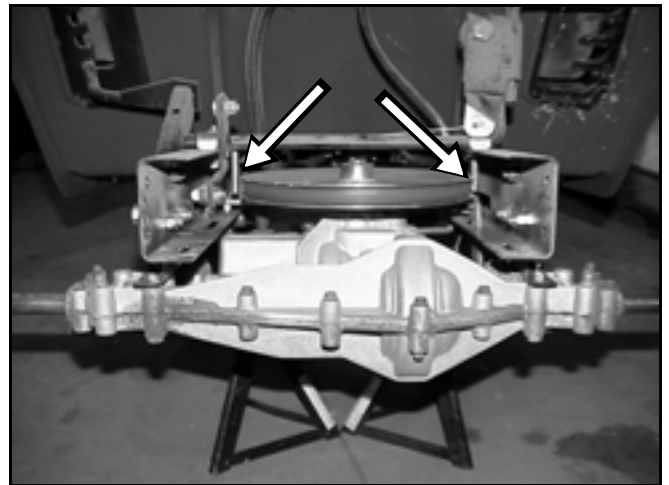

Figure 5
4. Loosen the left transaxle belt guide and move it away from the belt. The right transaxle belt guide needs to be removed (Figure 5).